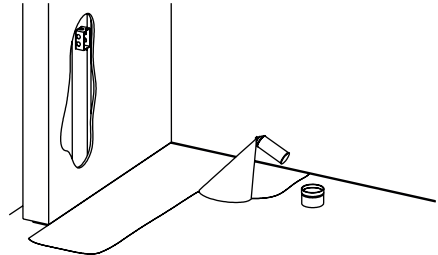

Figure 11.2
- Use adhesive spray to fasten the heating mat to a concrete subfloor (figure 11.2).